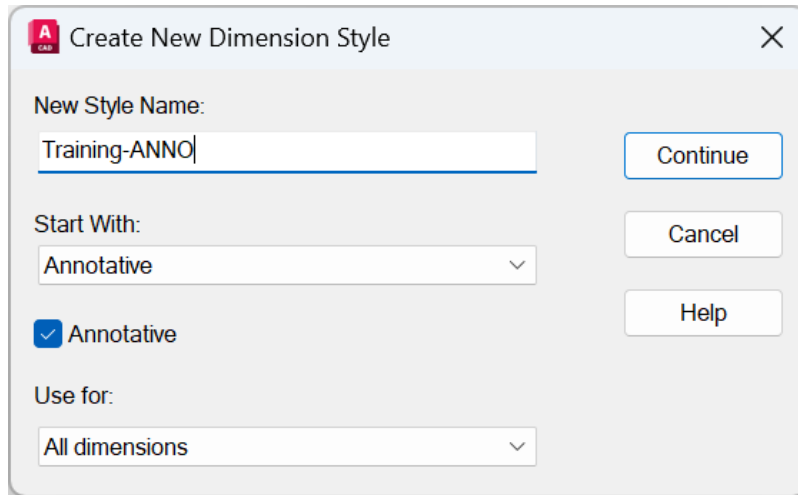

Figure 7.10: The Create New Dimension Style dialog box
3. You will now create an annotative dimension style for use in your drawing file. Click on **New...**, and you will see the prompt for the new dimension style name in the **Create New Dimension Style** dialog box, as shown in *Figure 7.10*.
5. Ensure that the **Annotative** box is checked, as shown in *Figure 7.10*. This will make sure that you are creating an annotative dimension style.